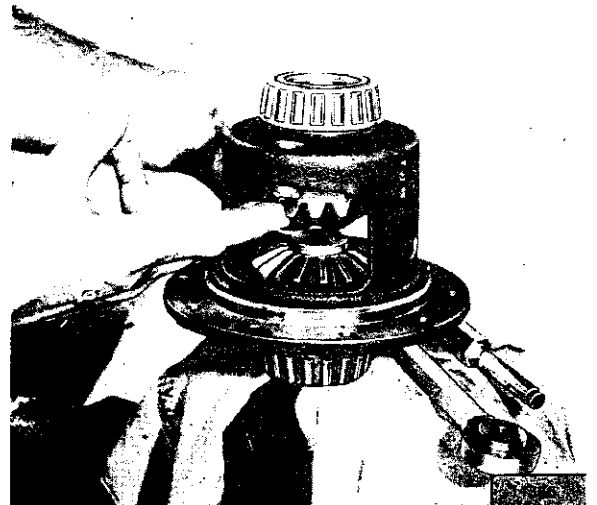

FIG. N-56—INSTALLING CLUTCH PACK AND SIDE GEAR
g. Assemble the other clutch pack and side gear exactly as shown. Be sure the clutch pack stays assembled onto the side gear splines and that the retainer clips are completely seated into the pockets of the case. Refer to Fig. N-56.